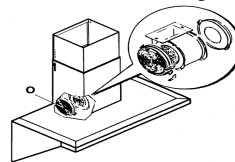

fig. 15
- Remove the saturated activated carbon filters 'O' Fig. 15, by turning them clockwise and then removing them from the guide pegs on the outdoor venting assembly.